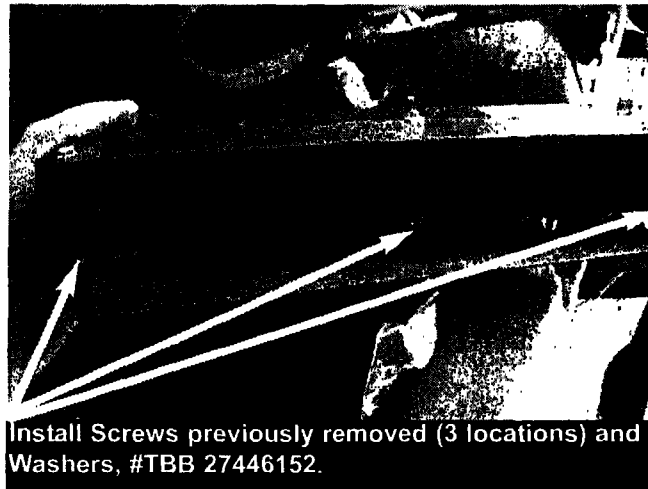

Figure 4
8. Reinstall Switch Bank using existing screws and add Washers, Part #TBB 27446152 as spacers. **Fig. 4**